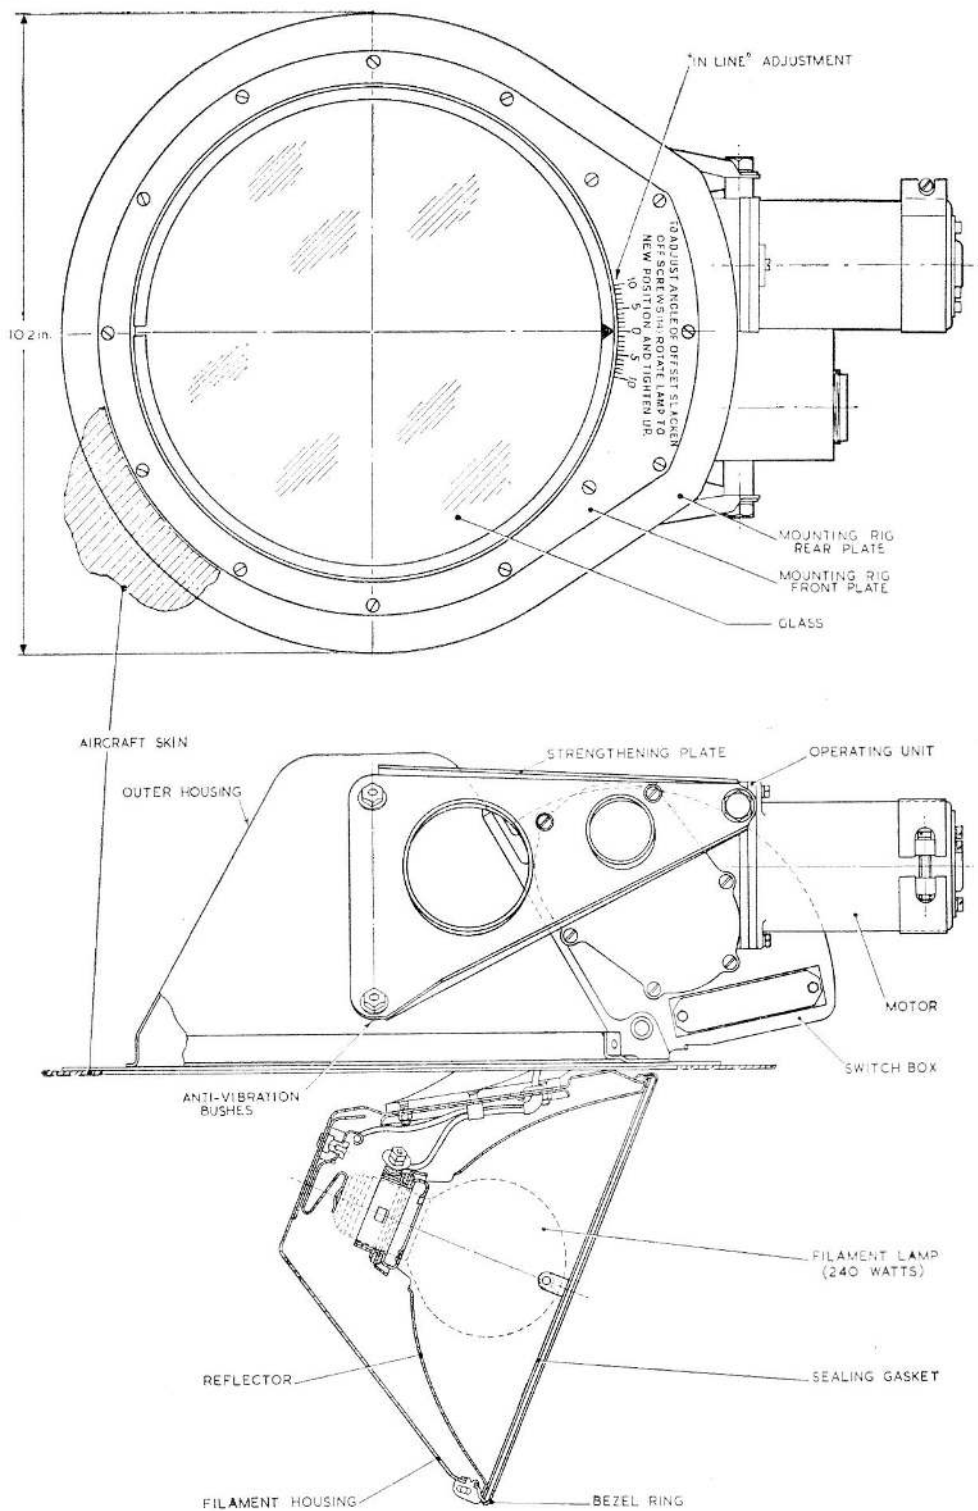

Fig. 1. Type J, Mk. 2 landing lamp
Outer housing (fig. 1)
4. An index mark on the bezel ring of the front glass (fig. 1) registers against the scale on the mounting rig front plate. When the fourteen clamping screws are slackened the whole lamp may be rotated in its mounting rig. This permits adjustment of the beam within ± 10 deg. either side of the fore-and-aft line of the aircraft.